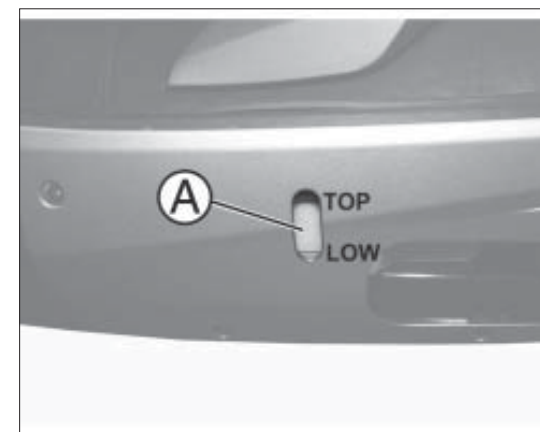

fig. 4
- check through the inspection hole fig. 4, under the floor that the liquid is at the correct level indicated by the reference Top.